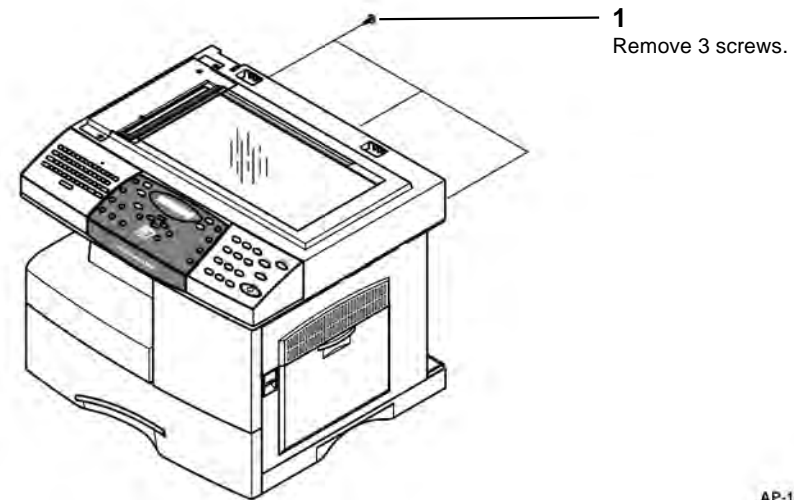

Figure 2 Screw removal
4. Remove 3 securing screws from the rear of the machine, Figure 2.